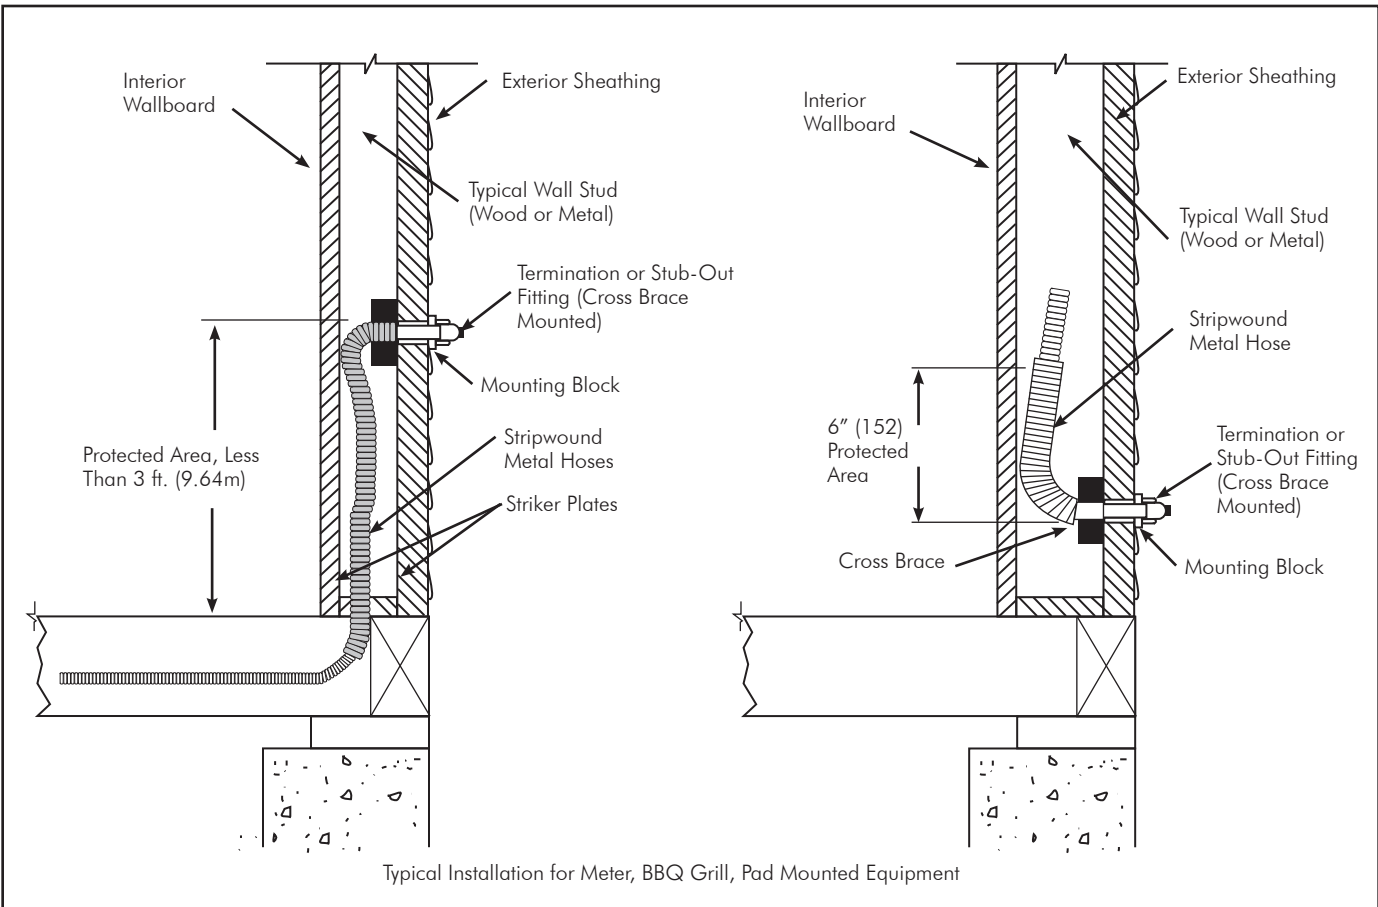
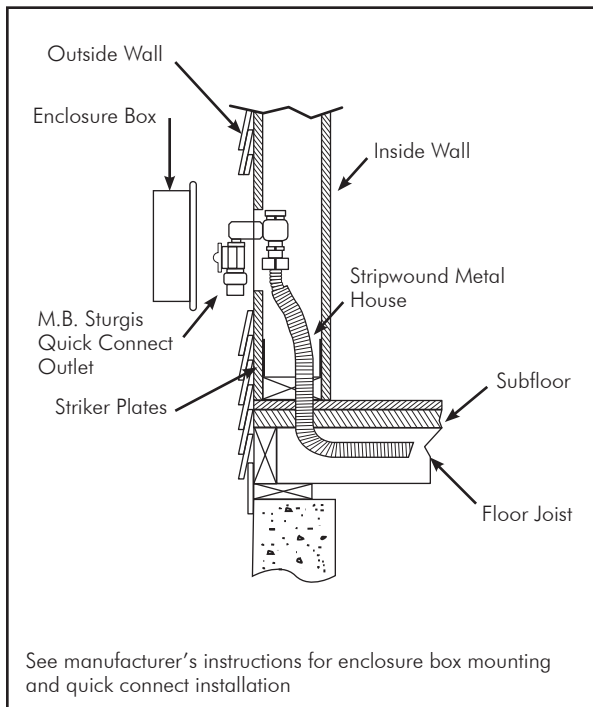

FIG. 4-23 Standard Termination or Stub-Out Fitting Mounted on Outside Wall
FIG. 4-24 BBQ Quick-Connect Outlet
- Movable grills shall be connected using an approved outdoor appliance connector which shall be attached to the DIAMONDBACK™ system at either a termination or stub-out fitting as shown in **FIG. 4-23** or a quick-connect device, such as the M.B. Sturgis gas convenience outlet shown in **FIG. 4-24**. The M.B. Sturgis gas convenience outlet shall be installed in accordance with the manufacturer's instructions.
- Gas appliances mounted on concrete pads or bricks, such as heat pumps, air conditioners, pool heaters and NGV refueling systems, shall be connected to the DIAMONDBACK™ system at a termination or stub-out fitting using either rigid pipe or an approved outdoor appliance connector as shown in **FIG. 4-24 & 4-28**.